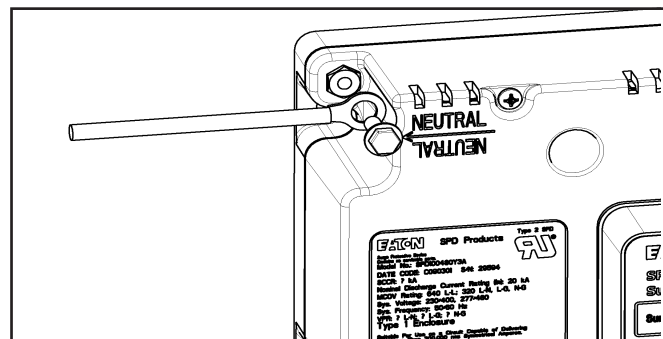

Figure 12. Neutral Connection
- If equipped, connect the System Neutral wire (grey or white) to the SPD. Connect the System Neutral wire to the SPD's Neutral connection using a ring terminal suitable for use with a #10 fastener and a #10-32 x 3/8" fastener (customer supplied). Tighten the Neutral connection to 4.1 Nm (36 in-lbs). There are two Neutral connection points provided on the SPD. Connect **only one** of them. See Figure 12.